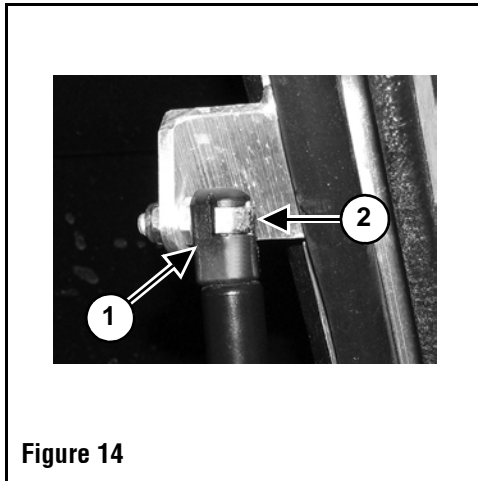

Figure 14
9. Install the struts (Item 1) onto the canopy. (Figure 14)
10. Confirm the locking clamp (Item 2) is flush with the strut end. (Figure 14)